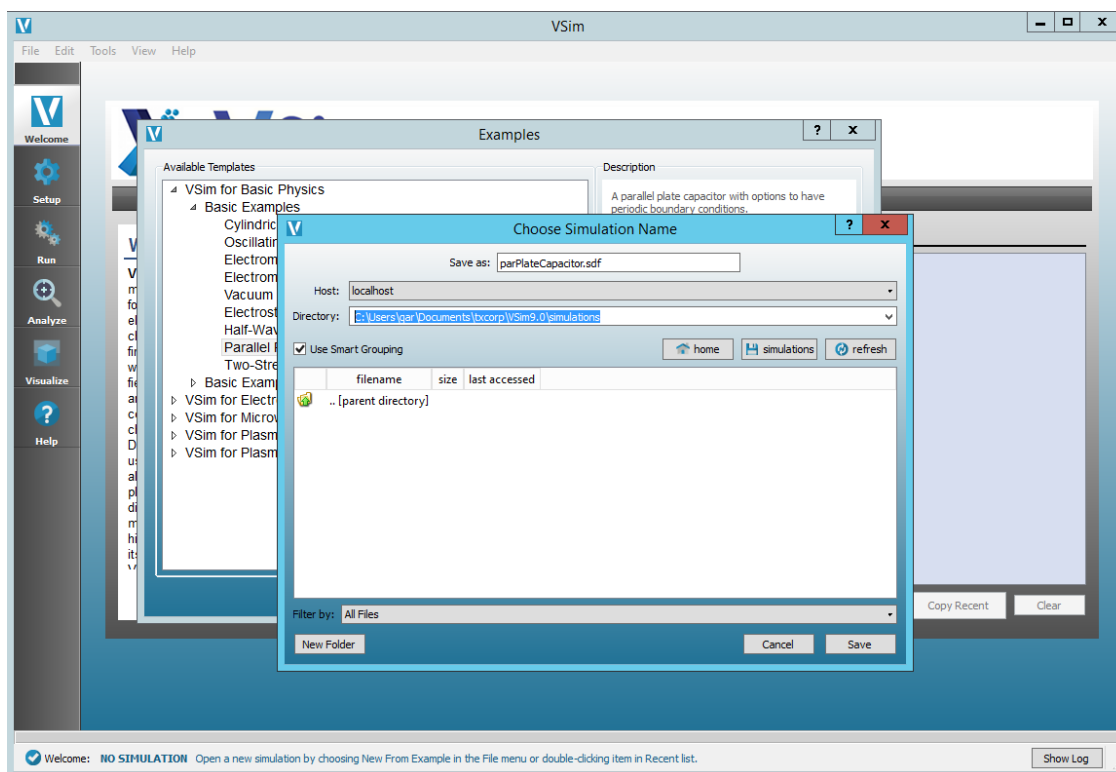

Fig. 8.12: Choose the shared drive in the *Directory* field so that the subsequent *New Folder* is on that drive.
- Select the text in the *Directory* field and replace it with the shared drive UNC path. See Fig. 8.12 below.